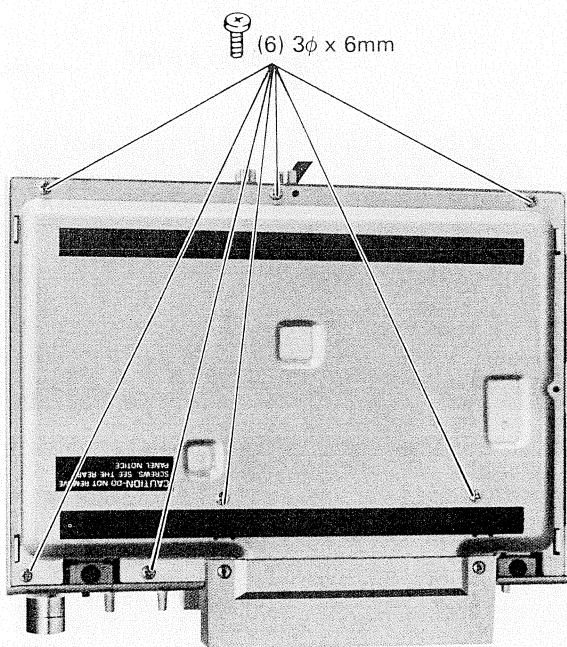

Figure 23
3. Remove seven screws (6) ($3\phi \times 6\text{mm}$) holding bottom plate as shown in Figure 23.